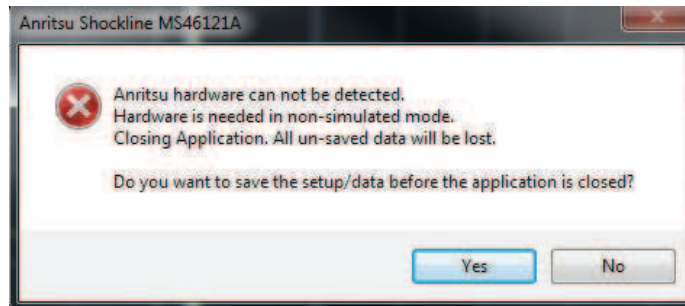

Figure 2-7. ShockLine warning when all MS46121As are removed from ports
8. If a VNA is removed, the channel of the removed VNA will stay on the ShockLine software and the other channels will not re-arrange or shift. If all VNAs are removed, the ShockLine software will shut down. Prior to exiting, the software will ask the user if the setup should be saved. See Figure 2-7 I